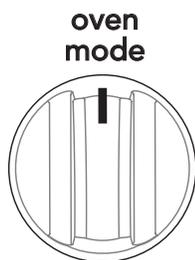

Figure 12: Oven mode knob
3. Turn the **oven mode** knob to the bake position (Figure 12).
1. Arrange the oven rack while oven is still cool. Turn the **oven mode** knob to the **broil** position (Figure 12).